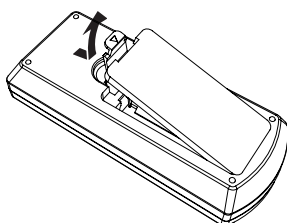

Fig. 1
- 1) **Open the cover. (Fig. 1)**